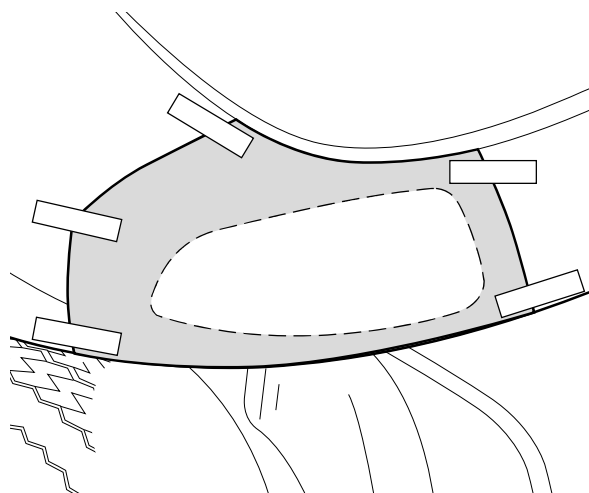

Figure 7
2. Align the template (1) with the body contour line and the lower edge of the cowl. Use tape to secure the template in position. See figure 7.